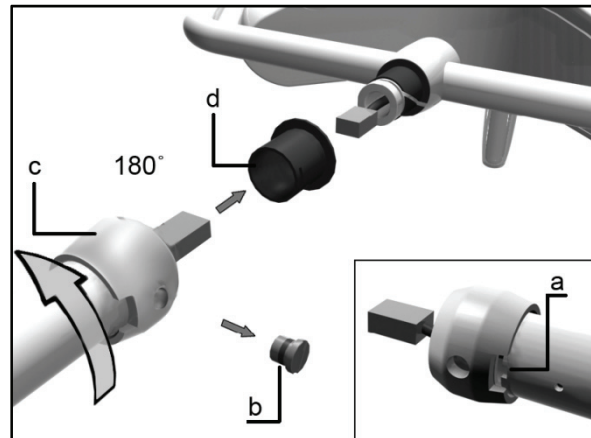

Figure 2
3. Rotate the collar (c) 180° so that the slot in the collar aligns with the slot in the spring arm (a) illustrated in the lower right of figure 2.